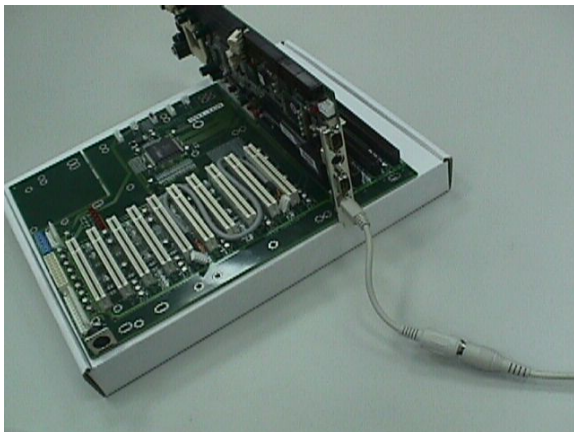

Fig.7
2. If you are using a PS/2 keyboard, simply apply them over the PS/2 connector on your SBC. In this application, the 5-pin keyboard control connector is not required (**Fig.7**).